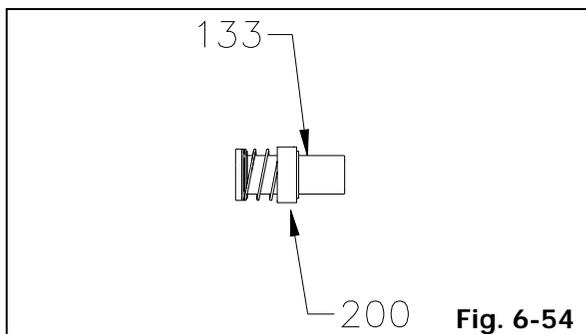

Fig. 6-54
5. For KS-SG, coat shaft sleeve (133) surface with oil, slide the rotary portion of mechanical seal (200) carefully onto shaft sleeve (133) by hand until the spring of the mechanical seal (200) is fully seated on shaft sleeve (133) (Fig. 6-54).